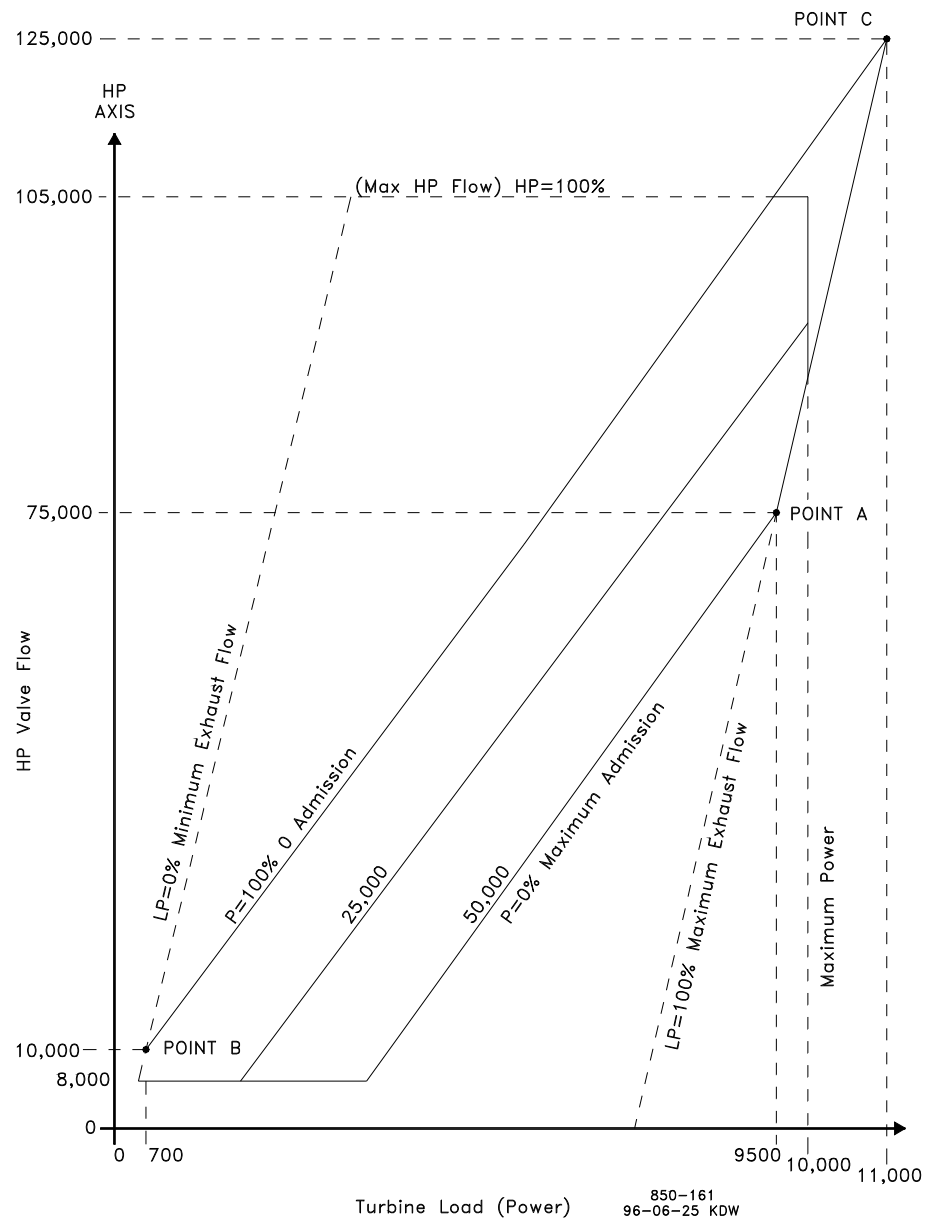

Figure 4-5. Typical Admission Steam Map
Before a turbine's admission steam map can be programmed into the control, it must have the intersection points A, B, & C (refer to Figure 4-5).
If only point A exists, your map will have to be modified to include points B & C. The LP=0 line will need to be created. To create the LP=0 line you must know the minimum required steam flow through the back-end of the turbine. In our example steam map (Figure 4-5) the minimum required flow was 10 000 lb/h (4536 kg/h).
1. Extend the zero admission (or induction) line ( $p=100\%$ ). Refer to Figure 4-5.
The nine values needed can be taken from the converted steam map. An example has been provided using the steam map in Figure 4-5.